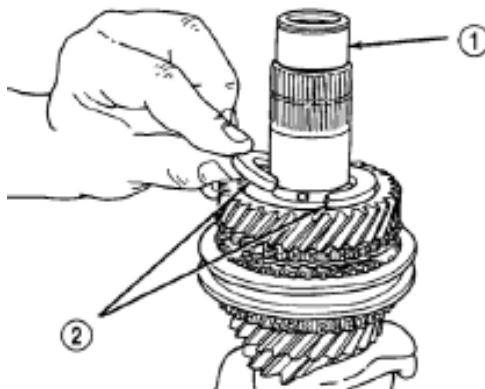

Figure 3-137 Assembly of split thrust washer
(8) Mount the split thrust washer on input shaft (Figure 3-137).